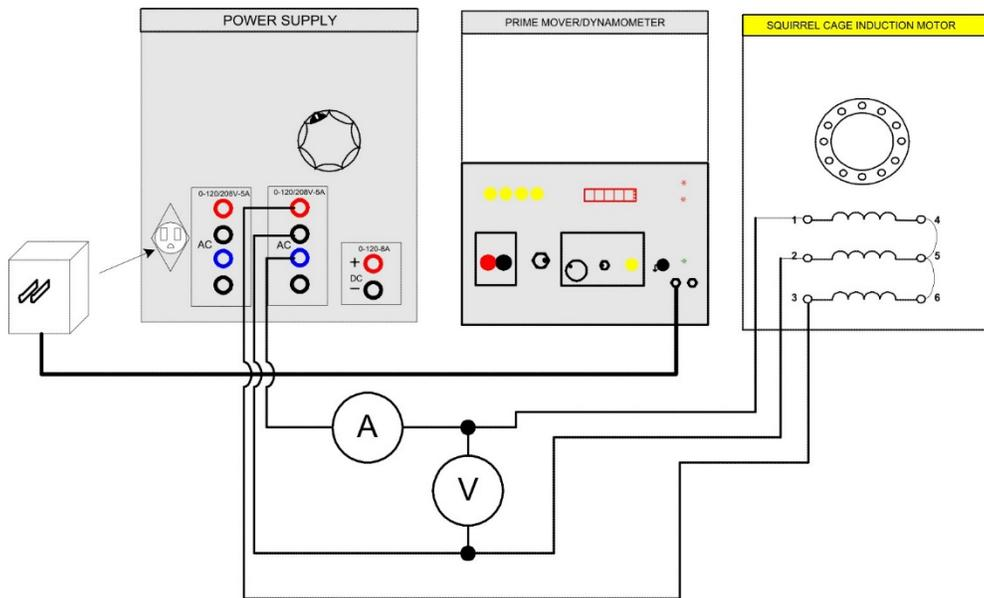

FIGURE 7.11
Step 7: a) Connect the circuit shown in Figure 7.11.